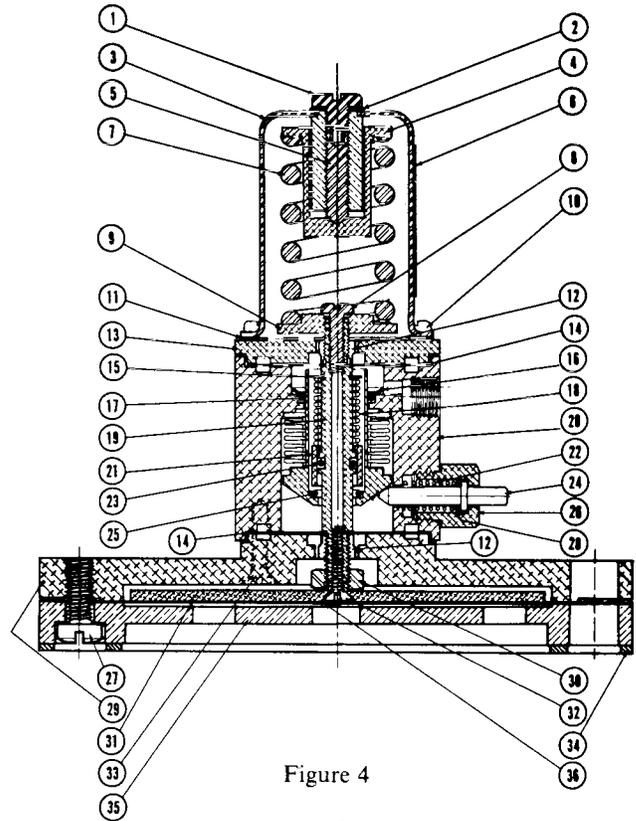

Figure 4
**MAINTENANCE - (See Figure 4)**